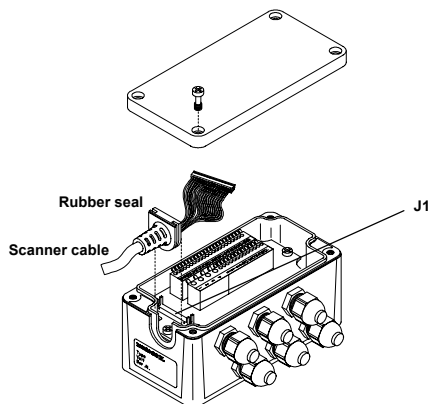

Figure 11 - Scanner cable connections to the junction box
- 4) After wiring the junction box and while the scanner is unplugged from the power, place the Scanner cable so that the rubber seal fits into the cutout in the housing of the junction box and plug the 24-pin connector into connector J1 on the PCB inside the junction box as shown in Figure 11.